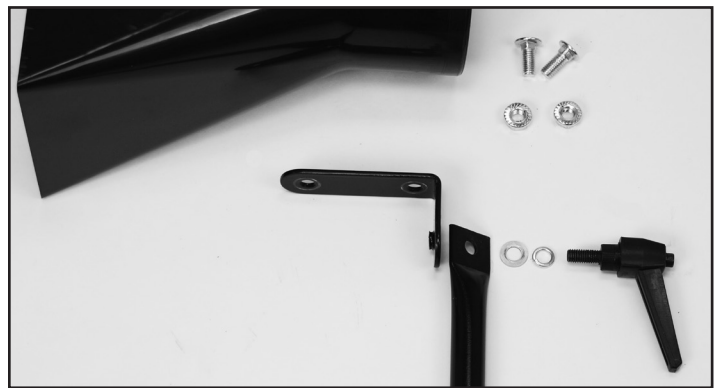

FIG. 5
1. Attach the Intake Fastening Plate (#3) onto the straight end of the Intake Support Pipe (#5) with the Flat Washer (#6), Spring Washer (#7) and Locking Lever Handle (#8). Figure 5.